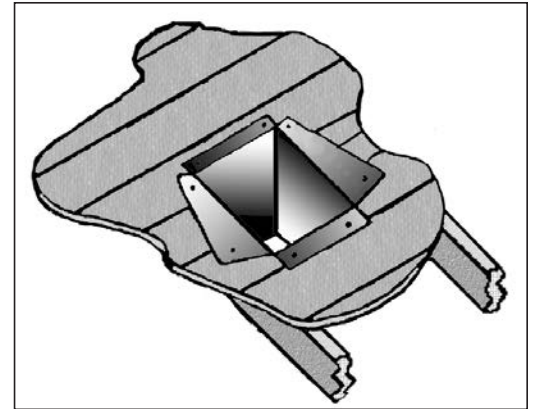

Figure 48: Cathedral Ceiling Support Box Installation.
5. Using tin snips, cut the "Support Box" from the top corners down to the roof line, and fold the resulting flaps over the roof sheathing (Figure 48). Before nailing it in to the roof, run a bead of non-hardening mastic around the top edges of the "Support Box", to make a seal between the box and the roof. Clean out any combustible material from the inside of the "Support Box".